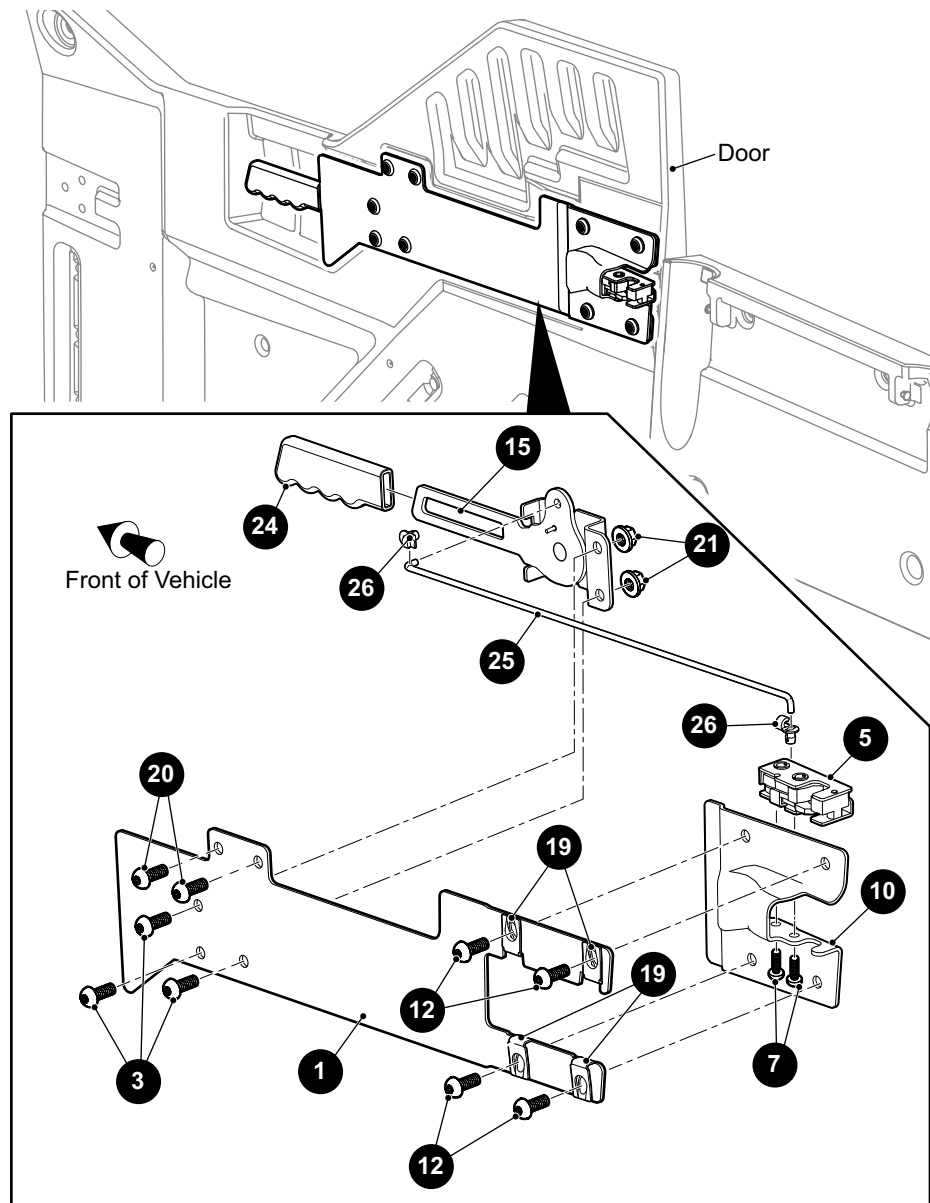

Fig. 10 Door Handle and Latch Assembly
1. Remove the screws (20) that secure the cover plate (1) to the door (See Fig. 10).
2. Remove the screws (12) that secure the cover plate (1) to the latch mount bracket (10) and to the door.
4. Remove the screws (3) and nuts (21) that secure the cover plate to the door lever assembly.
5. Remove the screws (7) that secure the latch mechanism to the latch mount bracket (10).
6. The push rod (25) can be removed by twisting the clips (26) to the open position.